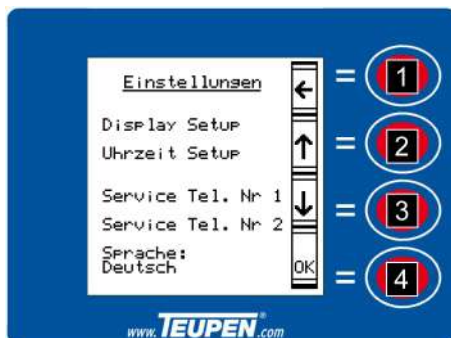

Fig. 73: Setting the language
1. ➤ Using the [function keys] (Fig. 73/2 and 3) select a language.
2. ➤ Press the [function key] (Fig. 73/4).
3. ➤ Using the [function keys] (Fig. 73/2 and 3) select the desired language.
4. ➤ Using the [function key] (Fig. 73/4) confirm the selected language.